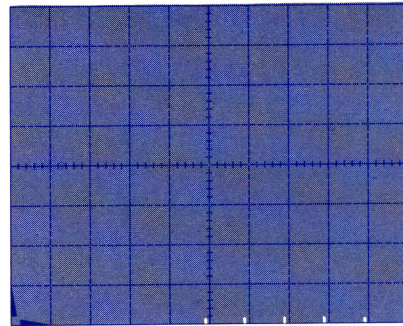

Figure 3-2. Sixth dot at bottom center graticule line representing 500 mA output current load.
- 4) Set to display quiescent current with line change — Reset VARIABLE COLLECTOR % to 0, MAX PEAK VOLTS to 100, + SUPPLY to upper limit of specified input voltage range [25 V], VERT UNITS/DIV to approximately 2 times specification value for quiescent current change [2 mA], and pull X10 VERT MAG. Press and hold interlock defeat button and increase VARIABLE COLLECTOR % until + SUPPLY OVERLOAD lamp extinguishes. Using vertical POSITION control, position sixth spot to bottom graticule line. See Figure 3-2. **8 11**